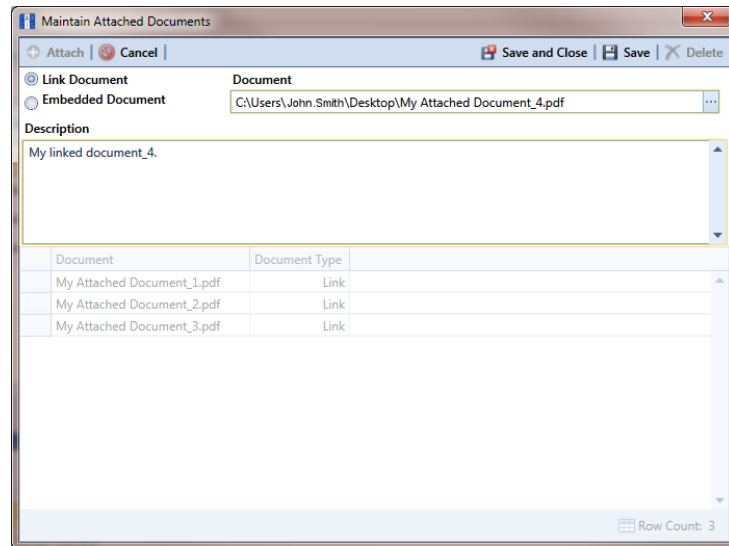

Figure 7-103. Maintain Attached Documents
- 7 If you selected *Link Document* in step 6 and want to link to a file on a local computer or company network, follow these steps (Figure 7-103):